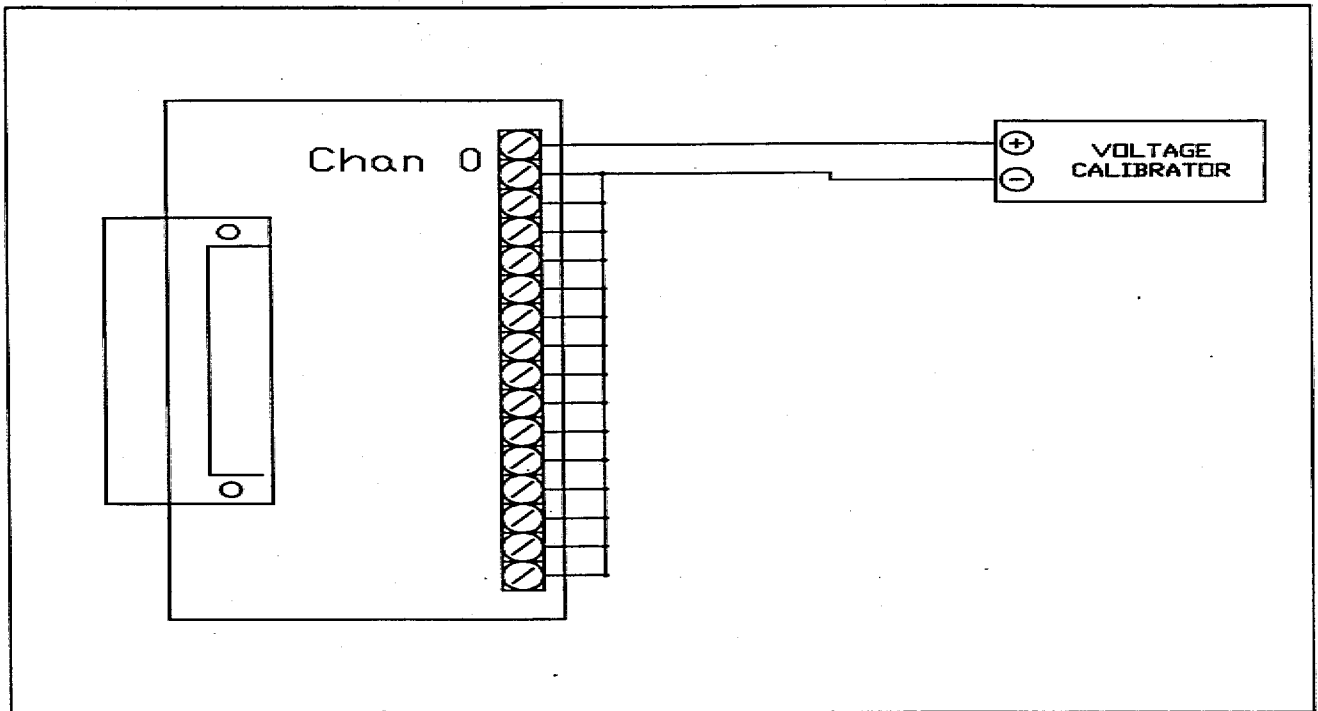

Figure 8.2. A/D calibration connections.
- i. Calibration is done on channel 0. The recommended connector wiring is shown in figure 8.2.